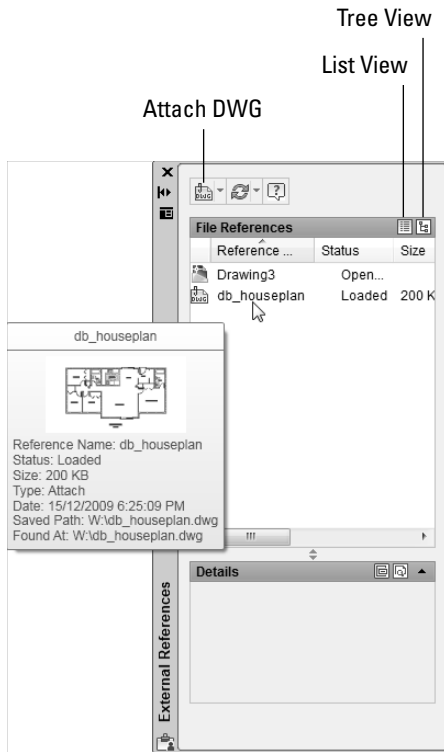

Figure 18-5:
- 3. Click Attach DWG. (Click the down arrow if the tooltip offers to attach something else — see Figure 18-5.)**
List of external references: You can change between the List view and Tree view of your drawing's external references just by clicking the appropriate button at the top of the palette (refer to Figure 18-5). You can resize the columns by dragging the column dividers or re-sort the list by clicking the column header names, just as in Windows Explorer.